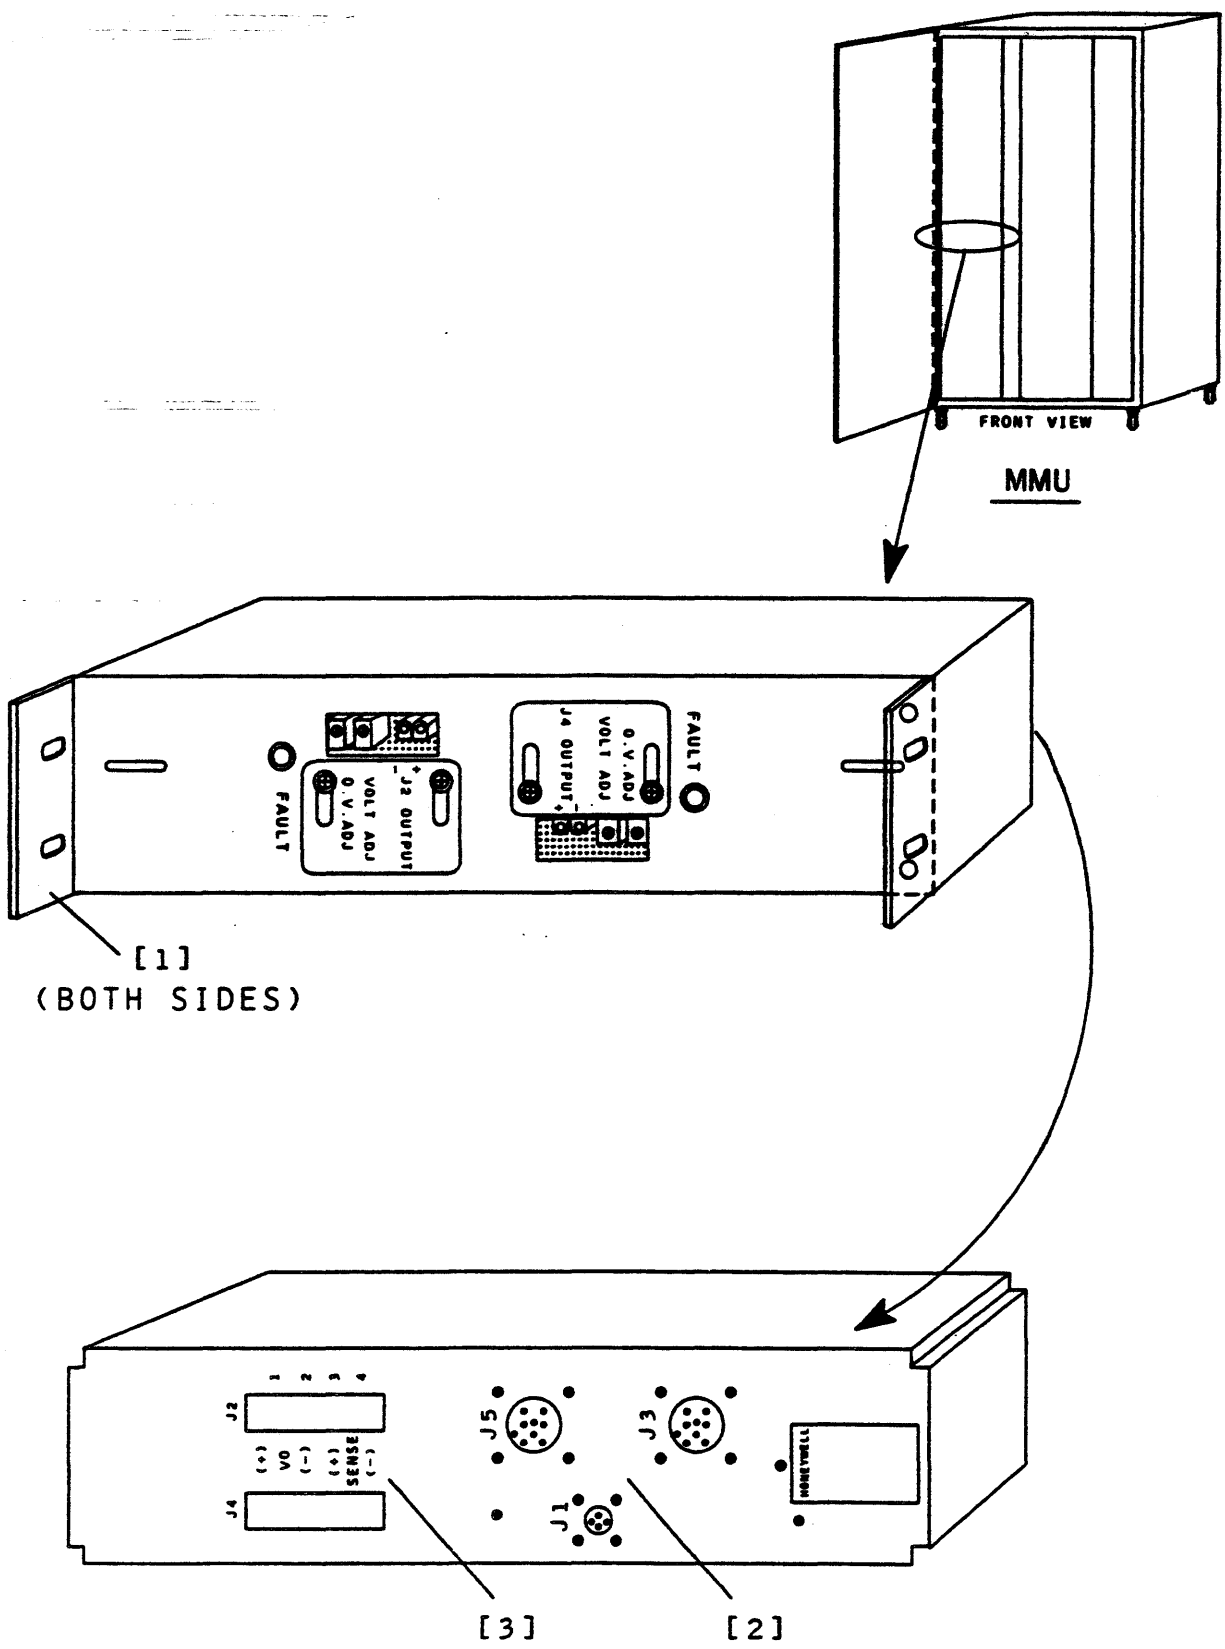

FIGURE 2.3-1. DUAL 100W REG. REMOVAL/INSTALLATION
6. Using cross-tip screwdriver, remove regulator's front retaining hardware (Figure 2.3-1, [1]).
7. Disconnect connector plugs P1, P3, and P5 from rear of regulator (Figure 2.3-1, [2]).
8. Using cross-tip screwdriver, remove SENSE and OUTPUT electrical lead securing hardware (J2 & J4) at rear of regulator (Figure 2.3-1, [3]).